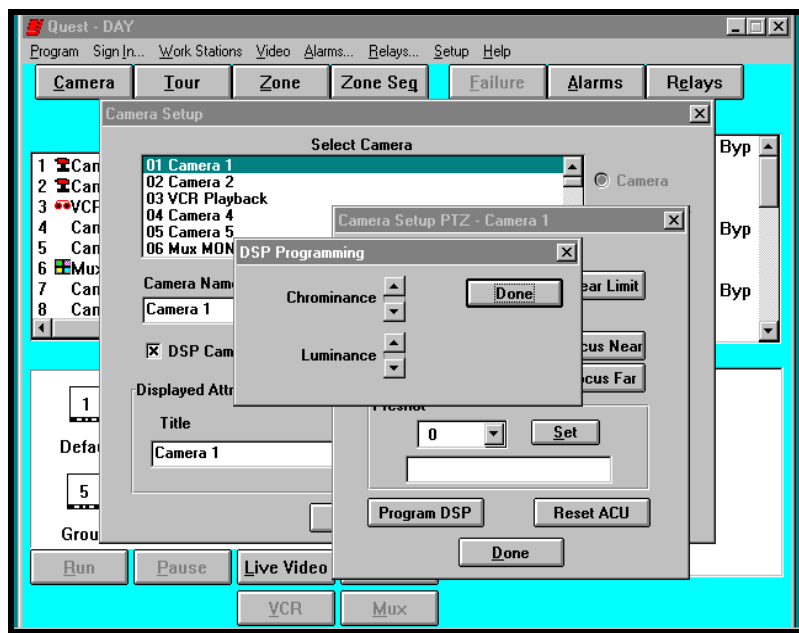

Figure 3-10. DSP Programming Window
- Click on the **Program DSP** button. The DSP Programming screen is displayed (Figure 3-10).